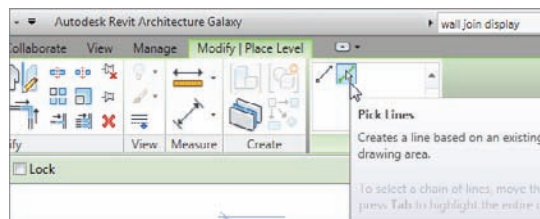

FIGURE 3.5 Choosing the options for the Level command
2. On the Draw panel on the Modify | Place Level tab, you will see that you can either draw a line or pick a line, as shown in Figure 3.5. Make sure Pick Lines is selected.
4. At the end of the Options bar, you will see a field for an offset. Type **10 (3000mm)** and press Enter. Basically the approach here is to pick Level 2 and create a new level that is offset 10'-0" (3000mm) above (see Figure 3.5).